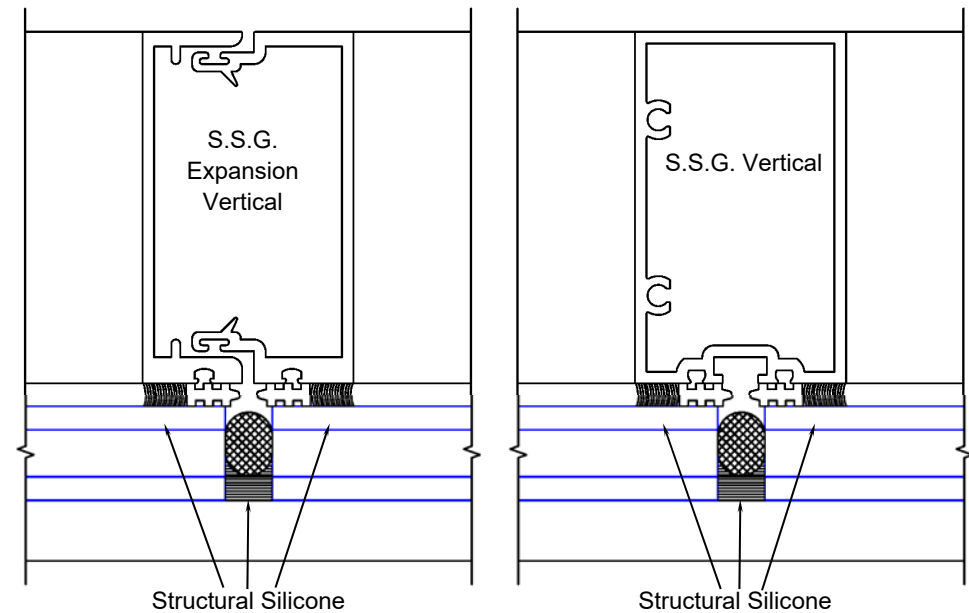

Figure 40
- Tool the sealant using a putty knife across the glass edges. Remove excess silicone from the glass surface by removing the masking tape before a skin begins to form. Any excess sealant on the glass units can be removed with a razor blade. (see figure 40)